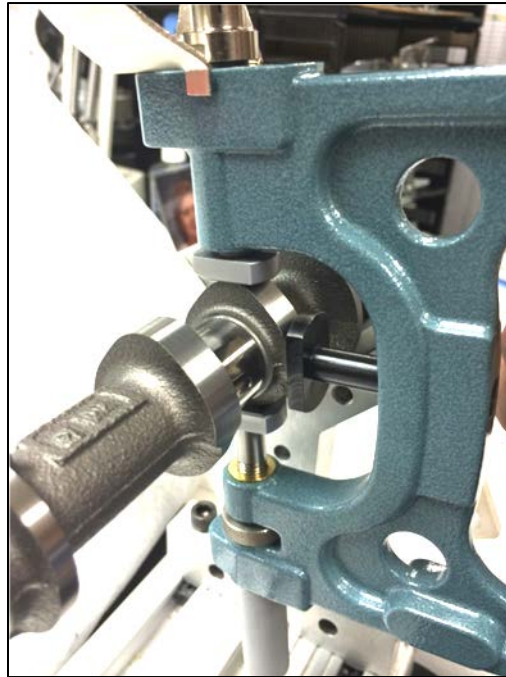

Figure 16 - Positioning the Snap Gage to Measure the Camshaft Heel-to-Toe Height
10.3. Set the base circle of the camshaft lobe on the anvil of the snap gage and engage the spindle (Figure 16).